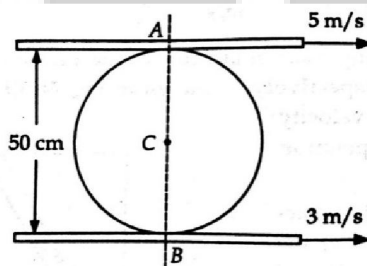

Fig. 7
- 14 A uniform ladder of weight 850N and of length 6m rests on a horizontal ground and leans against a smooth vertical wall. The angle made by the ladder with the horizontal is  $65^\circ$ . When a man of weight 750N stands on the ladder at a distance 4m from the top of the ladder, the ladder is at the point of sliding. Determine the co-efficient of friction between the ladder and the floor. (10)
- 15 a) A cylindrical roller, 50cm in diameter, is in contact with two horizontal conveyor belts running at uniform speeds of 5m/s and 3m/s as shown in Fig. 7. Assuming that there is no slip at the points of contact, determine, (5)